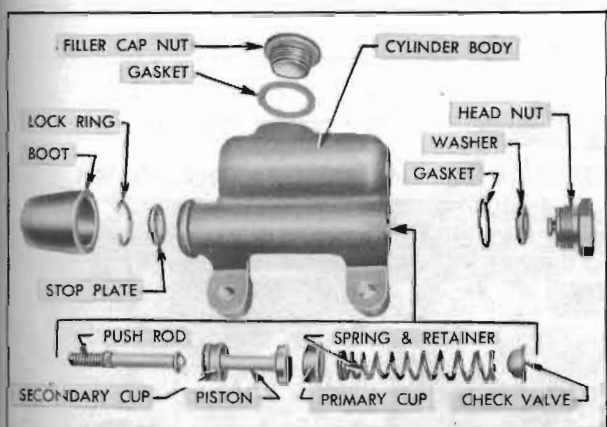

Figure 8-12—Master Cylinder—Disassembled
3. Remove filler cap nut and drain all fluid from master cylinder. Remove head nut, check valve and spring. Turn the boot back, remove lock ring, then remove push rod, stop plate, piston, and primary cup. See figure 8-12.
8. Install stop plate, lock ring, push rod and boot. Dip internal parts in brake fluid, then install piston with secondary cup, primary cup, spring with its retainer against primary cup, check valve, and head nut with rubber valve seat washer and nut gasket. Tighten head nut securely. See figure 8-12.